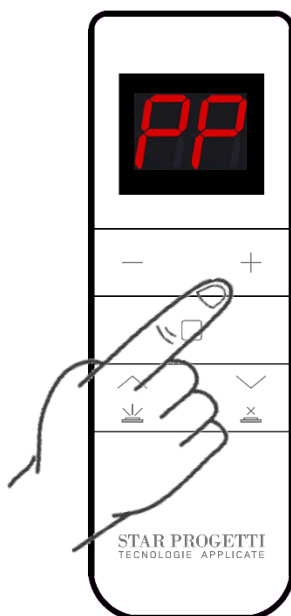

Fig.19
- By using the "+" and "-" buttons select channel PP Fig.19 and immediately after press the button as shown in Fig. 20